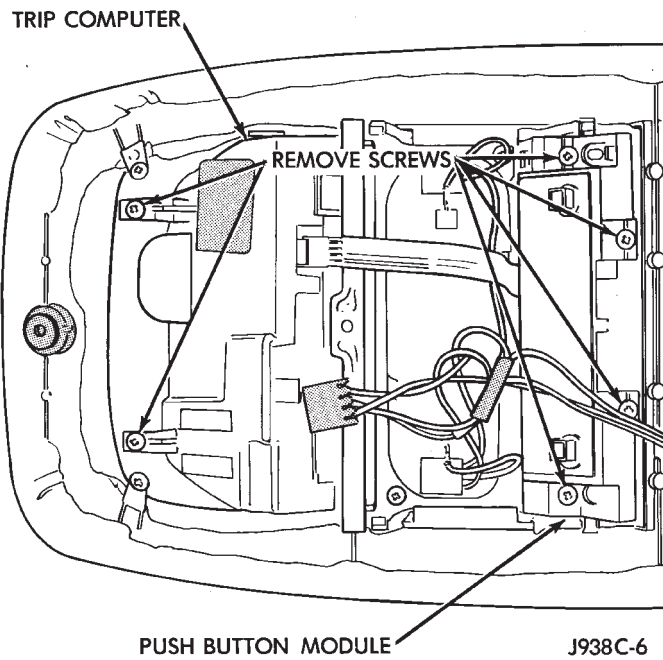

Fig. 5 Trip Computer Removal/Installation
- (1) Remove overhead console and disconnect wiring. Refer to Console Repair Procedures.
- (2) Unplug harness connectors from Trip Computer.
- (3) Remove 2 screws holding trip computer to console (Fig. 5).
- (4) Spread retaining tabs on the sides to remove trip computer from the console.
- (2) Unplug harness connectors from Push Button Module.
- (3) Remove 4 screws holding module to console (Fig. 5).
- (4) Remove module from console.
- (5) For installation, reverse the removal procedures.